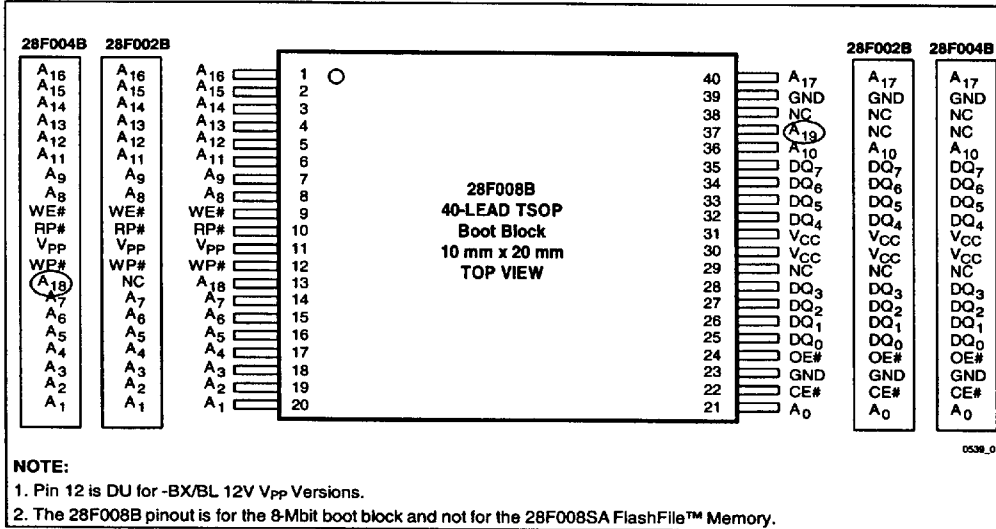
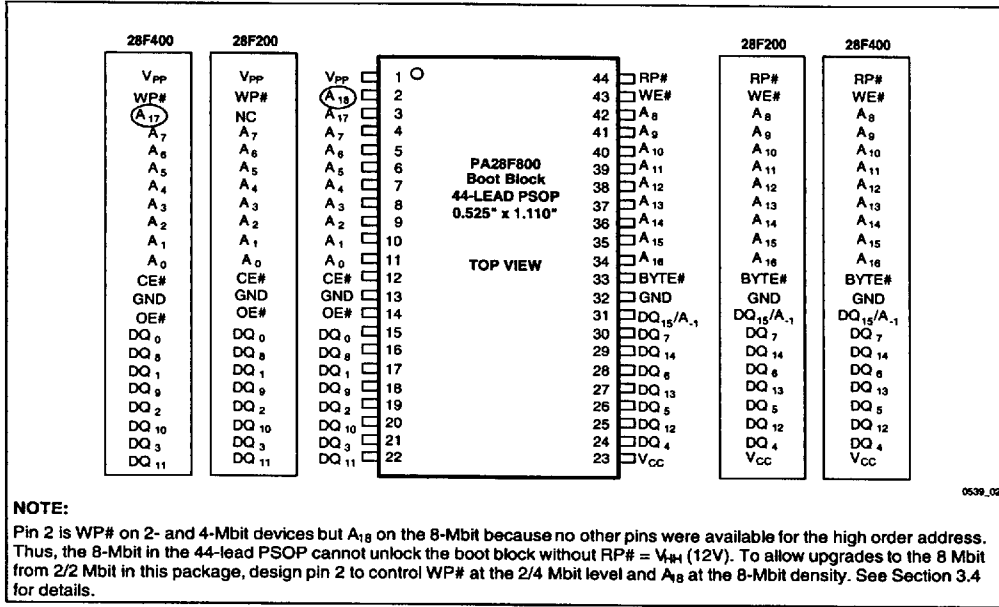
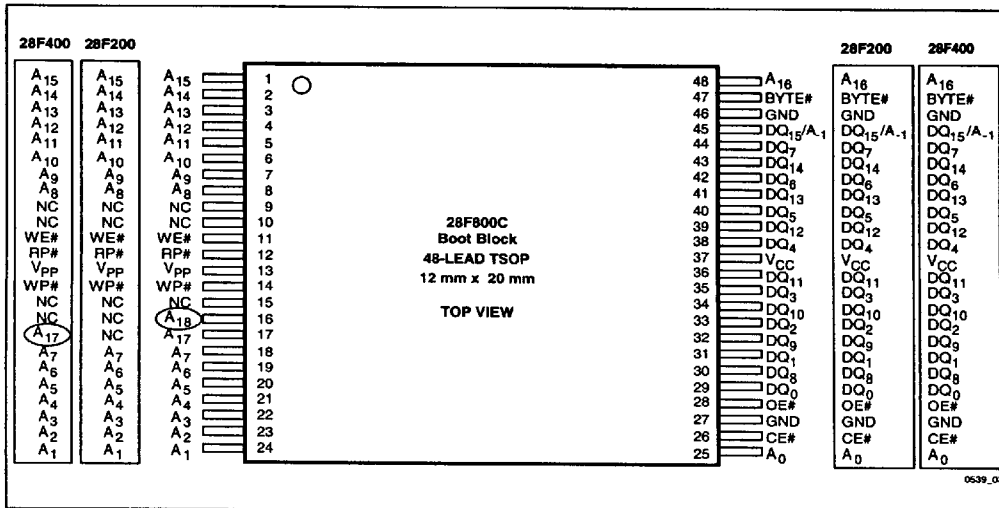

Figure 1. The 40-Lead TSOP Offers the Smallest Form Factor for Space-Constrained Applications
Figure 2. The 44-Lead PSOP Offers a Convenient Upgrade from JEDEC ROM Standards
Figure 3. The 48-Lead TSOP Offers the Smallest Form Factor for x16 Operation
- WP# pin has replaced DU (Don't Use) pin #12 in the 40-lead TSOP package. In the 44-lead PSOP, DU pin #2 is replaced with A18 (see Figure 1 and Section 3.4 for details). Connect the WP# pin to control signal or to VCC or GND (in this case, a logic-level signal can be placed on DU pin #12 for 40-lead TSOP). See Tables 2 and 9 to see how the WP# pin works.
To upgrade from lower density SmartVoltage boot block products, the similar pinouts in the 40-lead and 48-lead TSOP packages provide easy upgrades by adding extra address lines (see Figures 1 and 3). In the 44-lead TSOP, the WP# pin on the 2-Mbit and 4-Mbit BV parts becomes A18, removing the capability to unlock the boot block with a logic-level signal in this package only. The boot block can still be unlocked with 12V on RP# (see Figure 2 and Section 3.4 for details).
The 28F800 products are available in the 44-lead PSOP (Plastic Small Outline) package (a ROM/EPROM-compatible pinout) and the 48-lead TSOP (Thin Small Outline, 1.2 mm thick) package as shown in Figures 2, and 3, respectively. The 28F800 is not available in 56-lead TSOP. The 28F008B products are available in the 40-lead TSOP package as shown in Figure 1.
The 28F008B 40-lead TSOP pinout for space-constrained designs is shown in Figure 1. For designs that require x16 operation but have space concerns, refer to the 48-lead pinout in Figure 3. The 28F800 44-lead PSOP pinout follows the industry-standard ROWEPROM pinout, as shown in Figure 2.